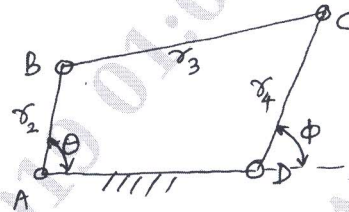

Fig.Q6
- 6 a. For the 4-bar mechanism shown in Fig.Q6, obtain Freudenstein's equation.
- b. Find  $r_2$ ,  $r_3$  and  $r_4$  to generate a function  $y = x^3$ ,  $1 \leq x \leq 3$  accurate at  $x = 1.1339$ ,  $x = 2$  and  $x = 2.866$  if  $r_1 = 100\text{mm}$ ,  $\theta_s = 30^\circ$ ,  $\theta_f = 90^\circ$ ,  $\phi_s = 45^\circ$  and  $\phi_f = 135^\circ$  with respect to Fig.Q6.